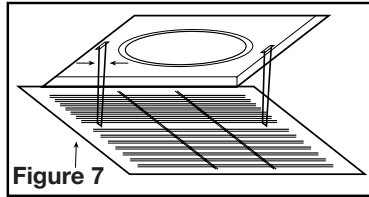

Figure 7
- Install the grill by squeezing the two ends of the springs together and installing them up into the slots of the fan's venturi. Push the grill up into position (Figure 7).